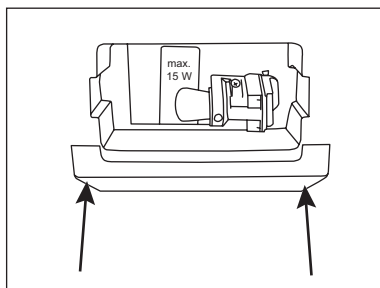

fig. 7
2. Remove the lamp cover by pressing its upper edge downwards to release it from the two clips (fig. 7).